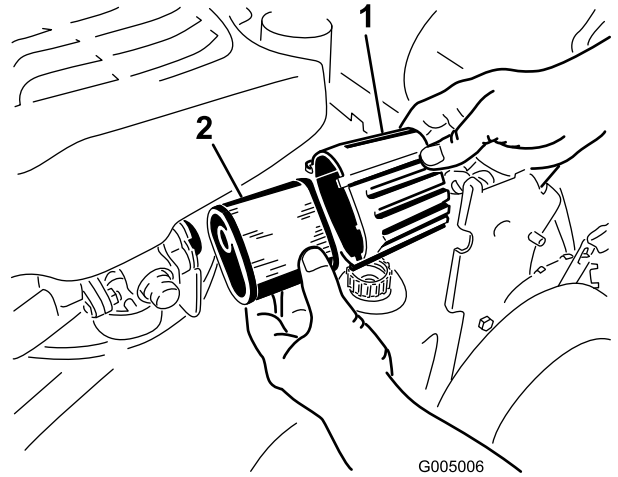

Figure 24
2. Rotate the air filter cover to remove it (Figure 24).